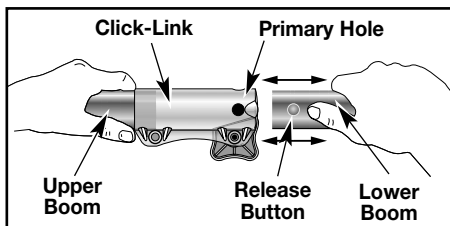

Fig. 9
3. While firmly holding the upper boom, pull the lower boom straight out of the Click-Link (Fig. 9).
1. Remove the hanger from the lower (attachment) boom. Hold the release button down while pushing the lower (attachment) boom into the Click-Link (Fig. 9).
2. **BASIC TRIMMING OR USING OTHER RYOBI ATTACHMENTS** - Locate and lock the release button into the **primary hole** in the Click-Link (Fig. 9).